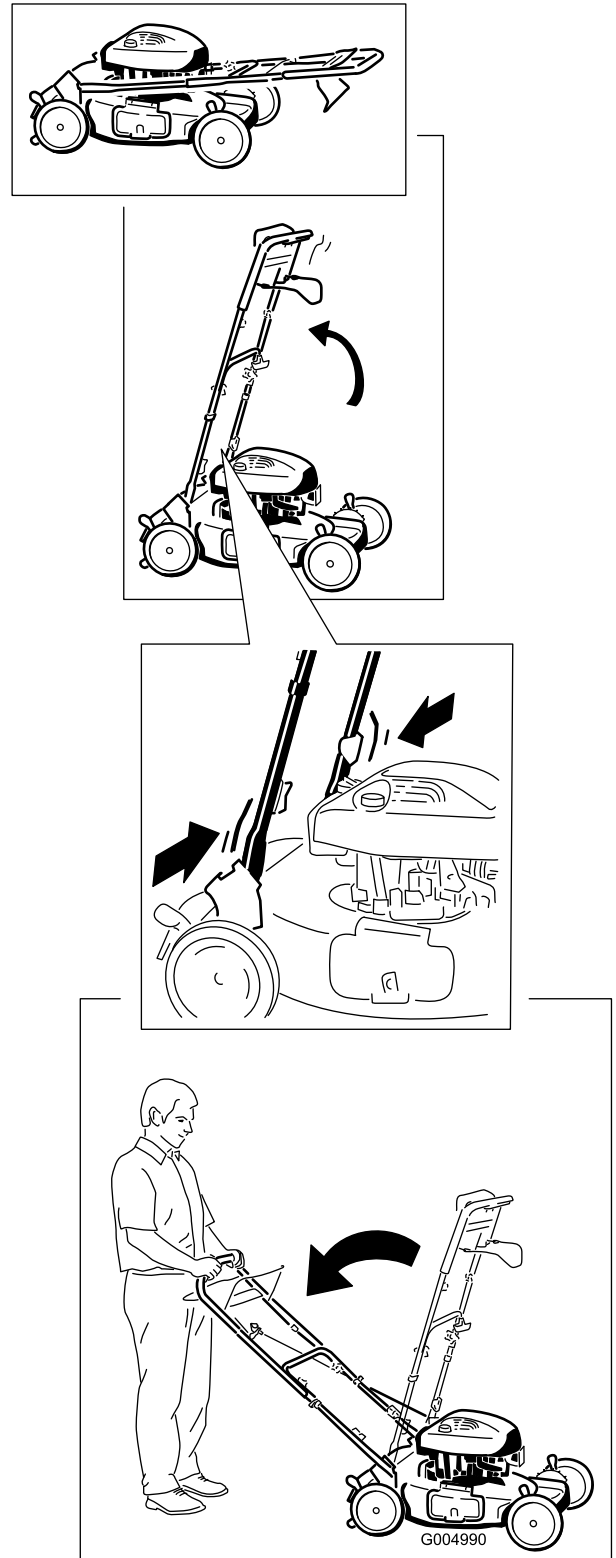

Figure 4
2. Squeeze the lower handle together and move the handle rearward until it clicks into the operating position (Figure 4).